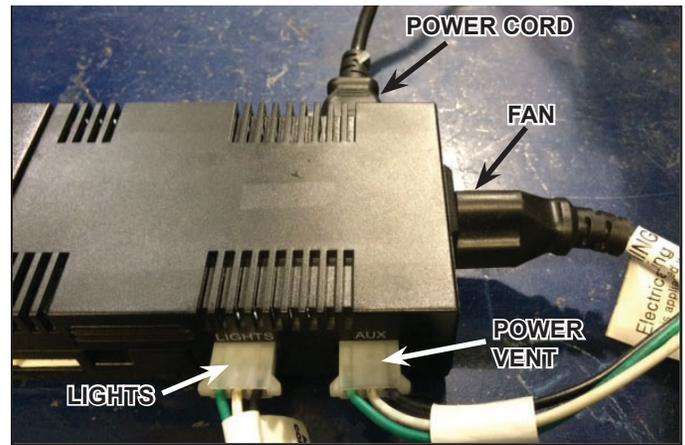

Figure 4.9. Fan, Lights and Power Vent Connection
- To connect a fan kit to the IFT-ACM, insert the three prong male plug from the fan into the receptacle located on the right side of the IFT-ACM. See Figure 4.9.
- To connect a light kit to the IFT-ACM, remove protective rubber cap labeled 'LIGHTS' and connect to the female cord that was supplied in your lights kit into the three male pins on the IFT-ACM. See Figure 4.9.
- To connect a power vent kit to the IFT-ACM, remove protective rubber cap labeled 'AUX' and connect to the female cord of the PVI-WH wire harness into the three male pins on the IFT-ACM. See Figure 4.9.